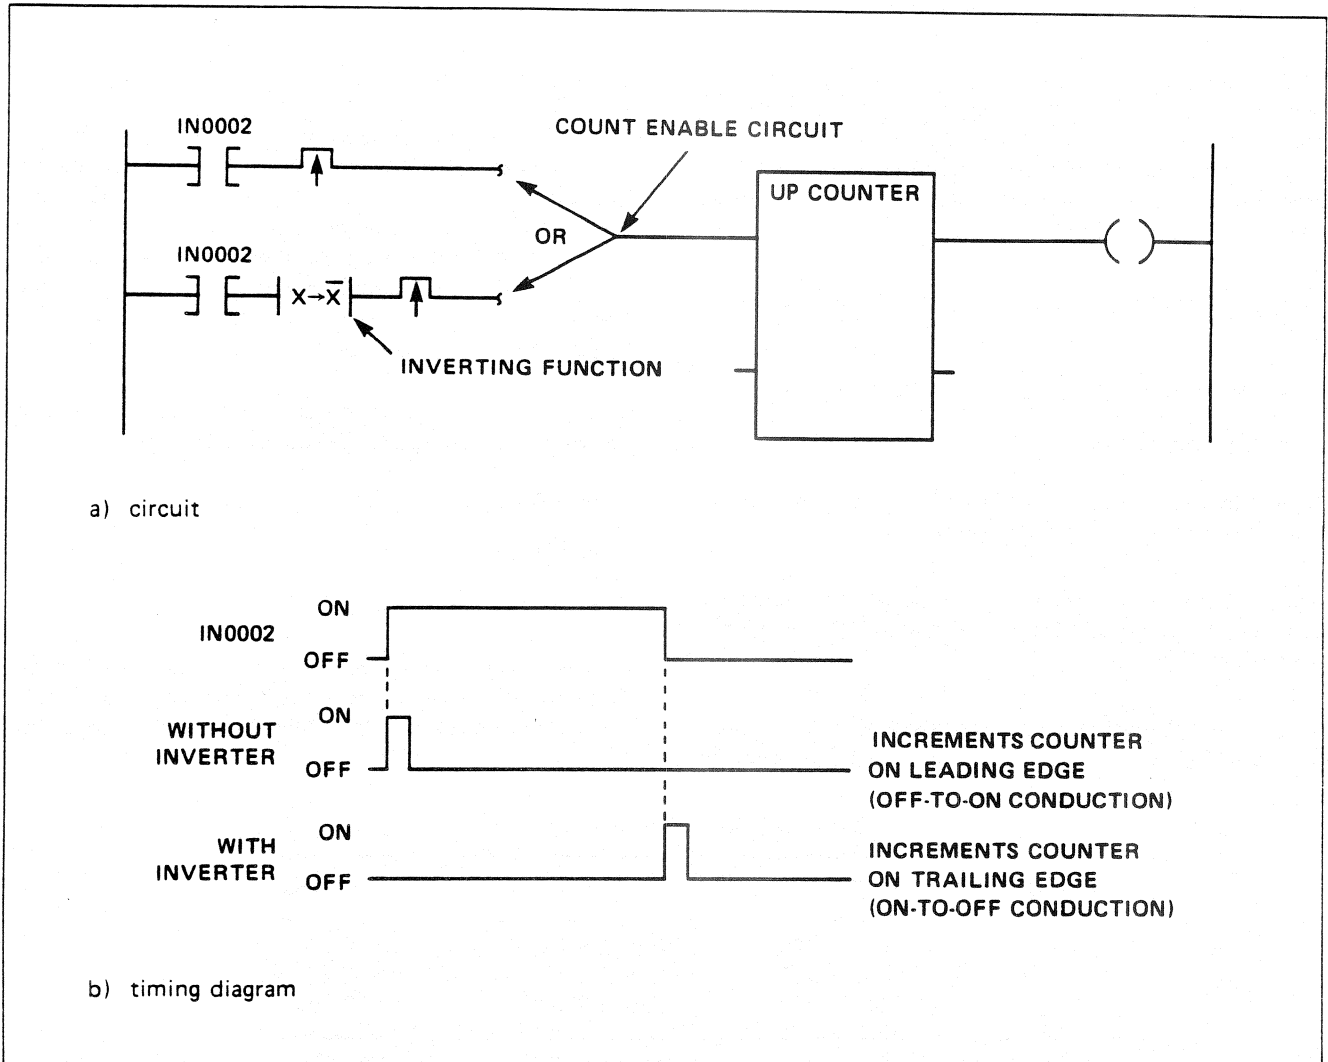

Figure TRN-3. Transitional Function Application Example
The Transitional function can be used to allow an Up Counter function (038) to increment on the leading or trailing edge of a contact closure. (See Figure TRN-3.) When the Inverting function (008)—described in Par. 8-2—is placed in series with the Transitional function, the Actual Value Register of the Counter function is incremented by one whenever the contacts of the enable circuit change from a conducting to a nonconducting state. Without the Inverting function in the enable circuit of the Counter function, it counts the ladder diagram program scans whenever the timing enable circuit is conducting.